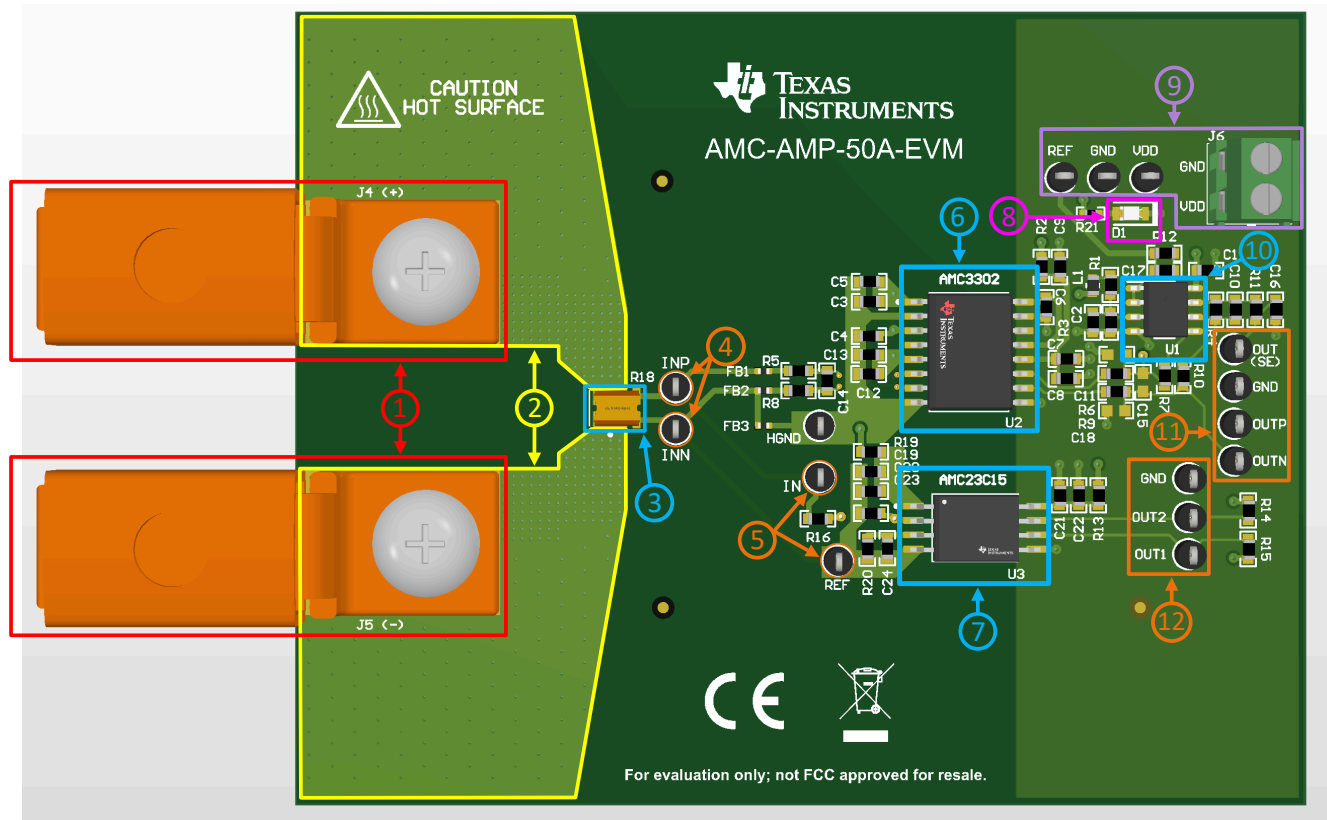
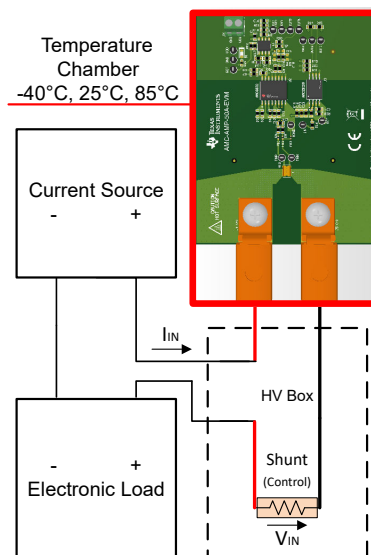
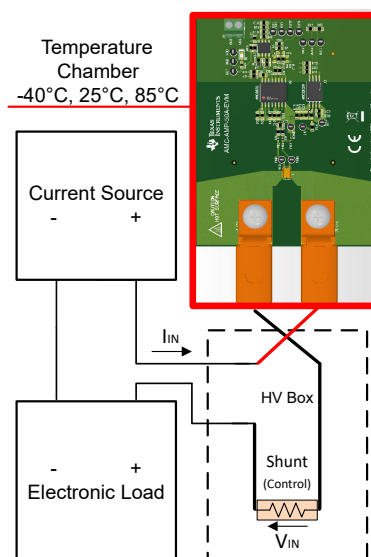

Figure 2-1. AMC-AMP-50A-EVM Hardware Labels
Figure 4-1. Positive Current Equipment Setup
Figure 4-2. Negative Current Equipment Setup
2. Connect DMMs to the following test points. Refer to Figure 4-1, Figure 4-2, and Figure 2-1 for test procedure setup and connection mapping.